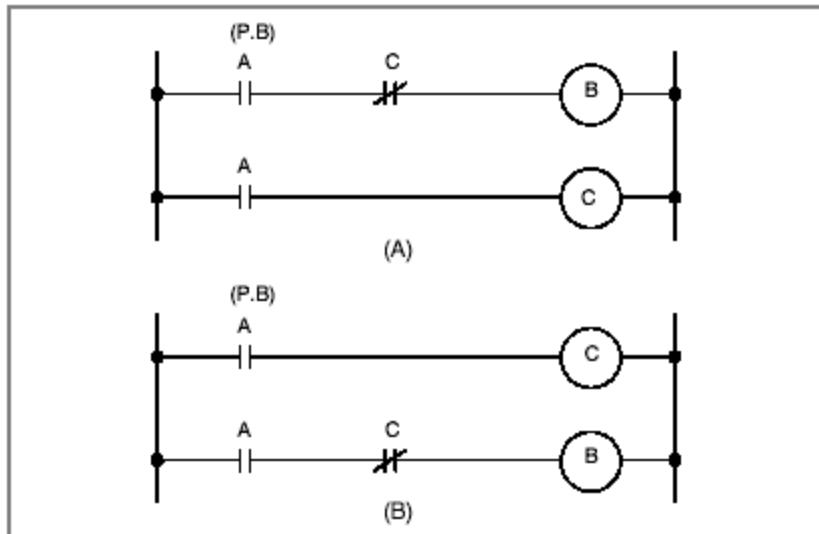

Fig. 1.4.1 (b) Circuit examples
(1) For relay sequence circuit
(A) and (B) in Fig. 1.4.1 (b) operate in the same manner. When A (P.B) is turned on, current flows through coils B and C, turning on B and C simultaneously. After C is turned on (after relay operation time), B is turned off.
(2) For PMC programming